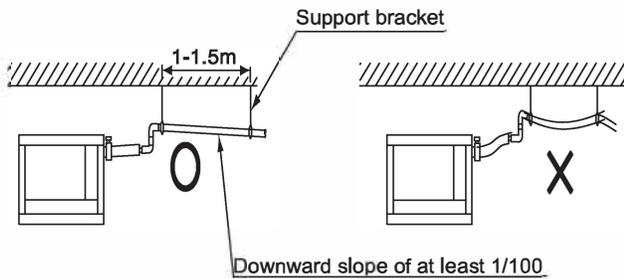

Fig. 10
- (1) **Carry out drain piping.** Carry out drain piping so that drainage is ensured.
- Install the drain piping as short as possible with downward inclination of 1/100 or more and such that air may not stagnate. (Refer to Fig.10)
- Install supports at a distance of 1 to 1.5m so that the piping may not deflect. (Refer Fig.10)
- Make sure to use the attached drain hose (2) and the metal clamp (1).